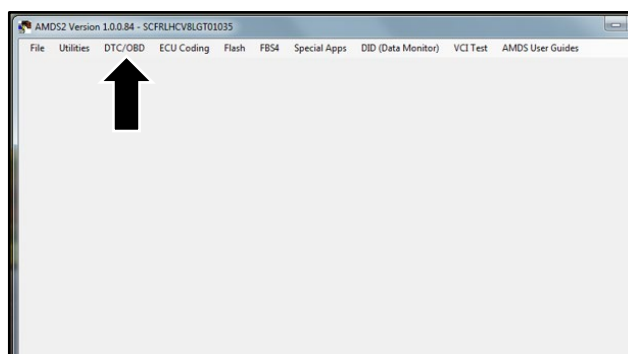

Figure 6
10. In AMDS 2.0 click the "DTC/OBD" button (refer to Figure 6).